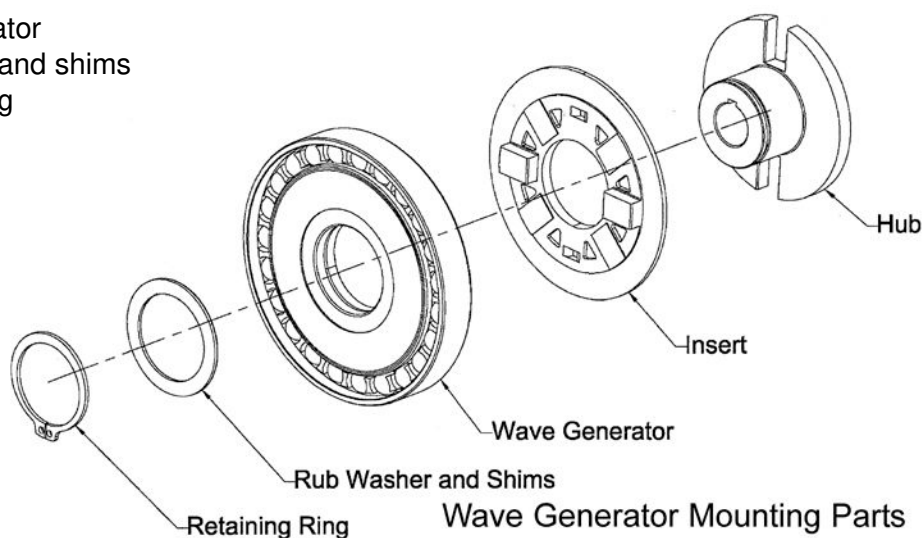

Figure 5
- 9 See Figure 5. Install the wave generator components onto the hub in the following sequence.